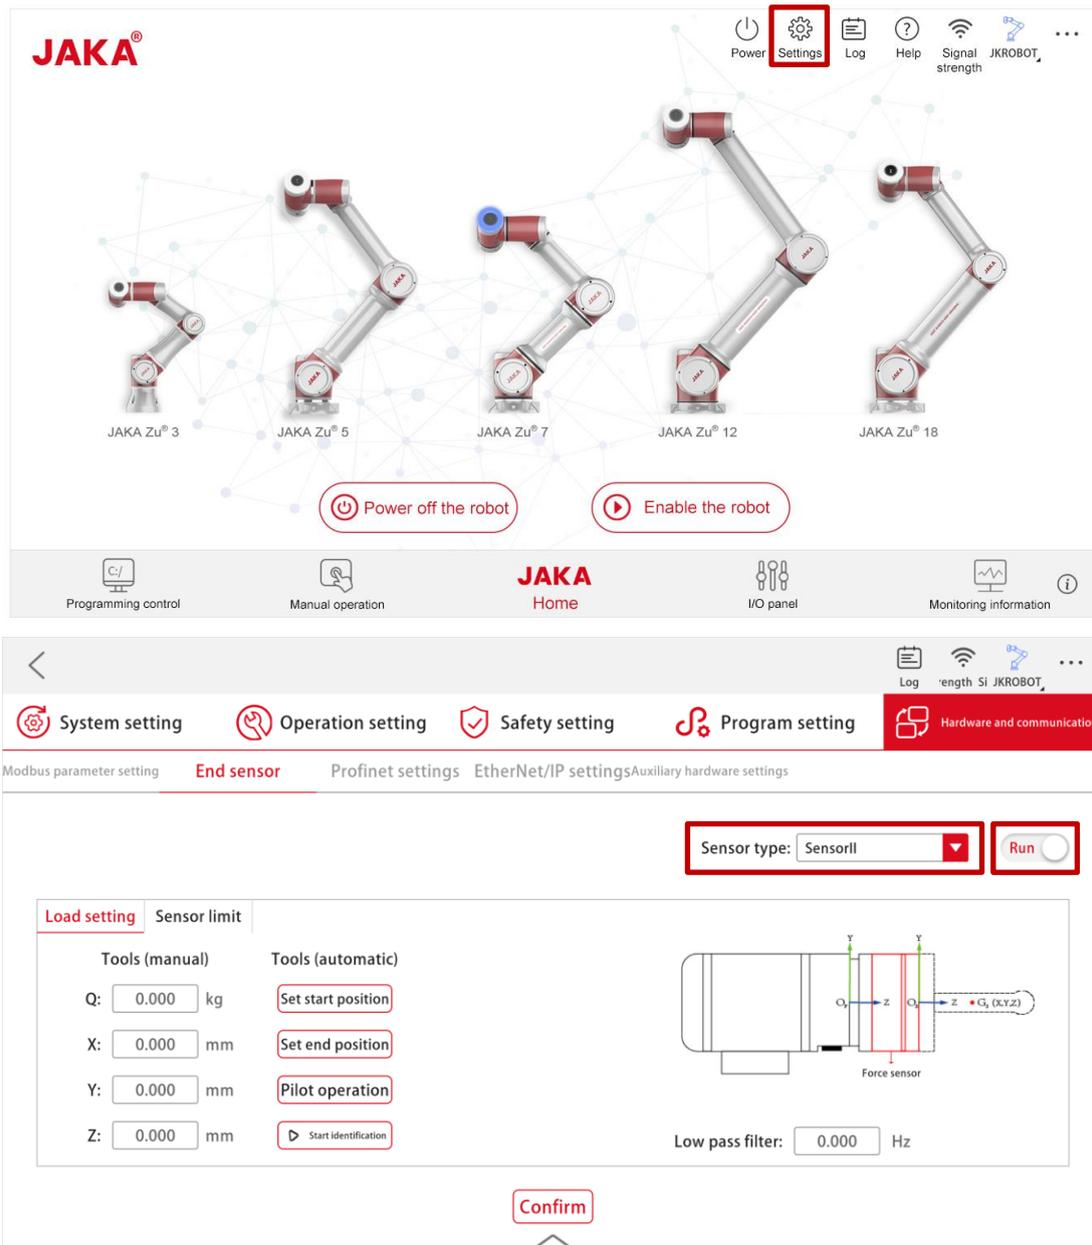

Figure 3-4 Se System Configuration Interface (USB Type)
- e. As shown in Figure 3-4, tap [Settings] at the upper right of the Home page, and then tap [Hardware and communication] → [End sensor] to enter the sensor configuration interface;